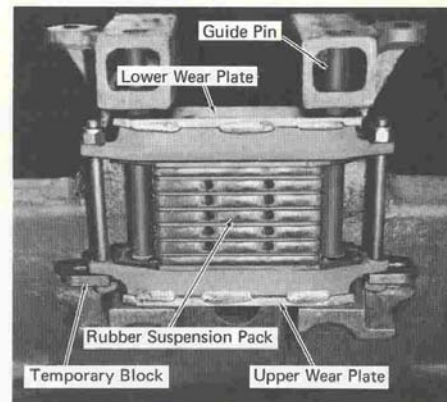

Fig. 2 - Removing Traction Motor
- c. Apply the hoist lifting chains to the bails on the traction motor at the nose suspension side. After the suspension pin keeper bar is removed, and the keeper pins drop down, lift the motor to compress the springs of the suspension assembly. With the suspension assembly compressed, insert 3/4" thick temporary blocks between the spring holder and bolt as indicated in Fig. 2.
- e. After the suspension assembly is removed, again lift the motor, allowing it to rotate on the axle until the lower lip of the support bearing clears the axle, Fig. 2. Then lift the motor assembly clear of the axle.